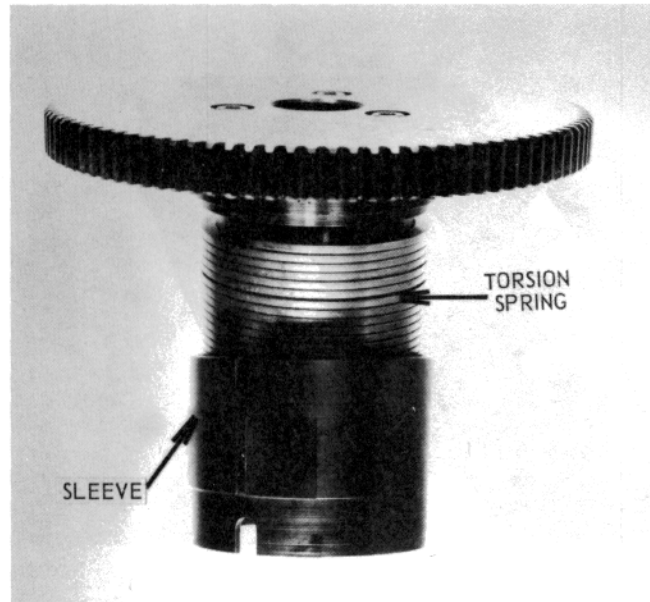

Figure 56 — Cocking Clutch Gear, Sleeve, and Torsion Spring
3.1.4 Remove the sleeve from the gear to expose the cocking clutch torsion spring (see Figure 56). First pull the sleeve over the spring.